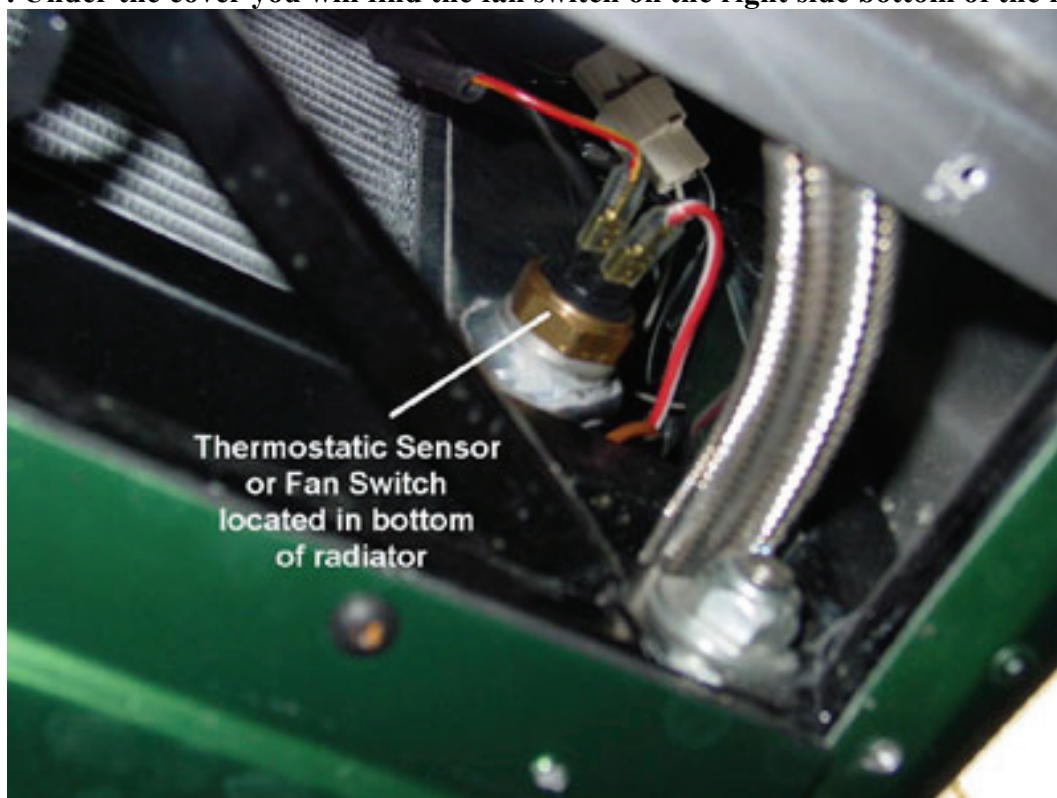

Fig.3
1. Under the cover you will find the fan switch on the right side bottom of the radiator. (See fig.3)